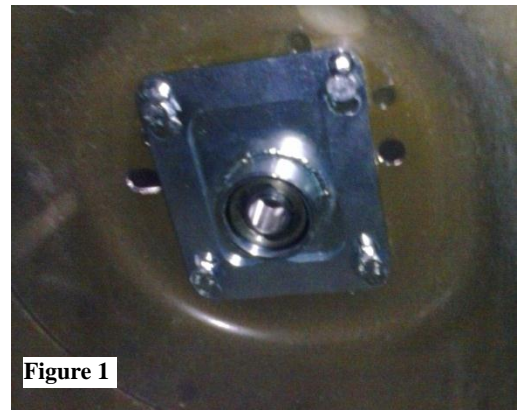

Figure 1
2. Install both QA1 plates beneath the strut tower with the bolts protruding upwards through the factory mounting holes. See **Figure 1**.